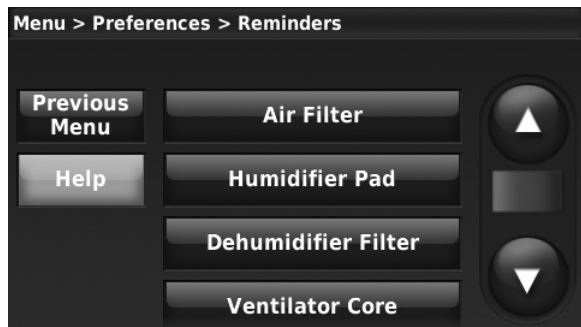

Fig. 155.
2. Press Reminders. Fig. 155 is displayed.